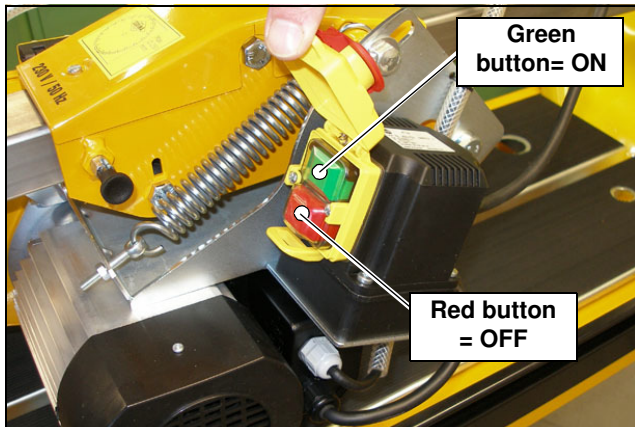

Fig. 3.16 Buttons to switch ON/OFF the saw
- To switch ON the pump and motor, open the yellow lid with the red emergency-stop button and press the green button (Fig. 3.16)!
- Push the red button (Fig. 3.16) to stop the saw!